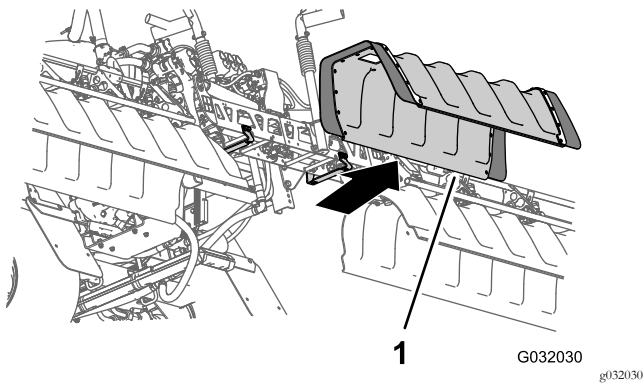

Figure 20
2. Remove the center section cover from the machine (Figure 20).